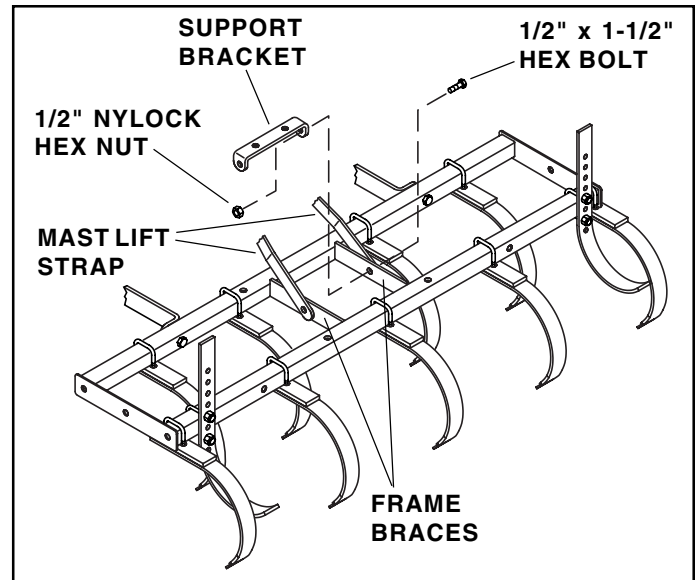

FIGURE 6
6. Attach the lower end of each mast lift strap to the outside of the welded frame braces and attach the support bracket to the inside of the frame braces. Use two 1/2" x 1-1/2" hex bolts and two 1/2" Nylock hex nuts. **Do not tighten yet.** See figure 6.